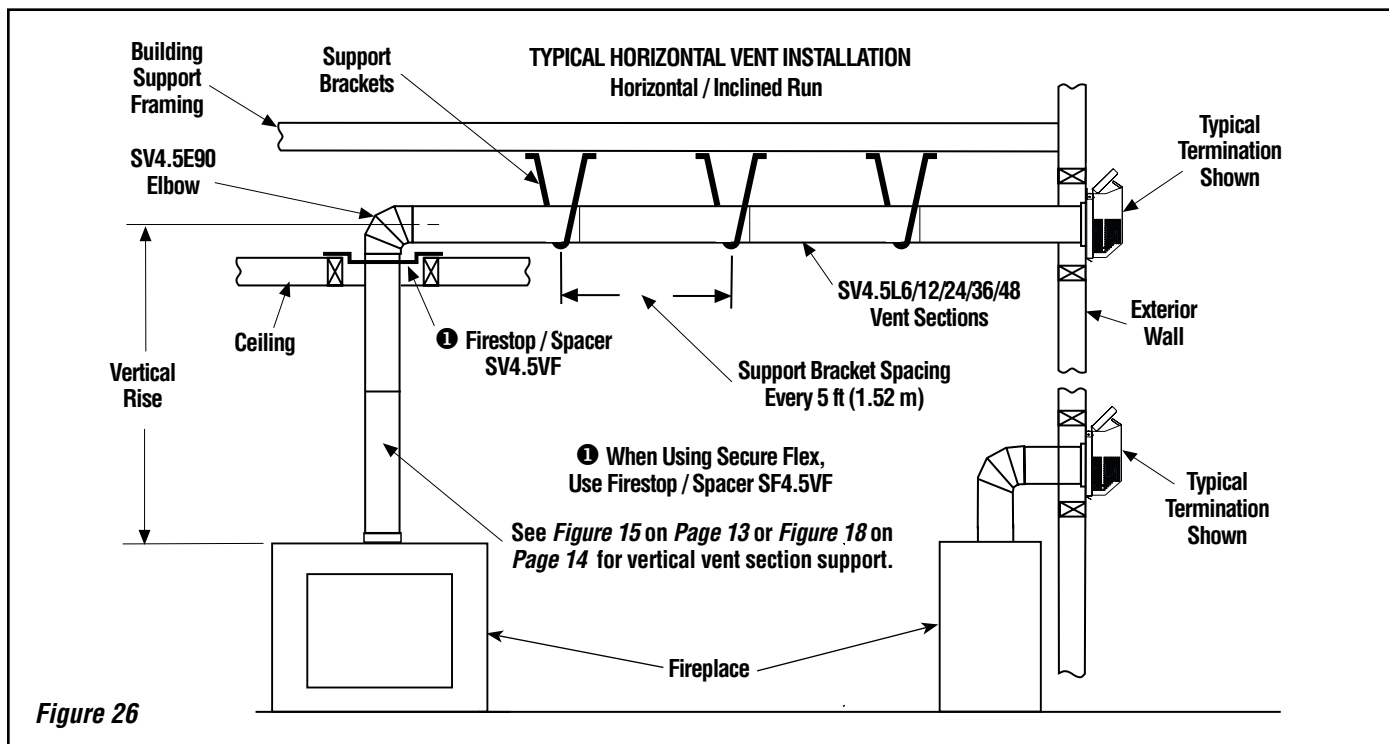

Figure 26
G. Continue installation of horizontal/inclined sections - Continue with the installation of the straight vent sections in horizontal/inclined run as described in **Step C**. Install support straps every 5 ft. (1.52 m) along horizontal/inclined vent runs using conventional plumber's tape. **See Page 18, Figure 26. It is very important that the horizontal/inclined run be maintained in a straight (no dips) and recommended to be in a slightly elevated plane, in a direction away from the fireplace of 1/4" rise per foot (20 mm per meter) which is ideal,** though rise per foot run ratios that are smaller are acceptable all the way down to at or near level. Use a carpenter's level to measure from a constant surface and adjust the support straps as necessary.
Figure 26 on Page 18, and Figures 27 to 32 on Pages 19 through 22 and their associated Horizontal Vent Table which illustrate the various horizontal venting configurations that are possible for use with these appliances. Secure Vent™ pipe applications are shown in these Figures; Secure Flex™ pipe may also be used. A Horizontal Vent Table summarizes each system's minimum and maximum vertical and horizontal length values that can be used to design and install the vent components in a variety of applications.
See Figure 26. **It is very important that the horizontal/inclined run be maintained in a straight (no dips) and recommended to be in a slightly elevated plane, in a direction away from the fireplace of 1/4" rise per foot (20 mm per meter) which is ideal, though rise per foot run ratios that are smaller are acceptable all the way down to at or near level.**